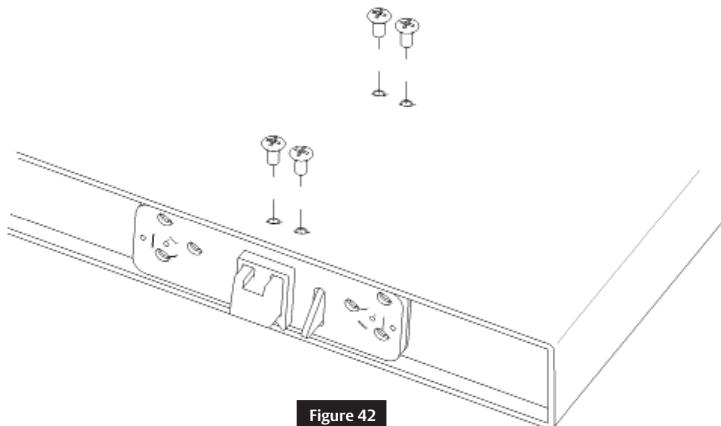

Figure 42
- Install four (4) 10-24 oval head screws on the face of the door. (Figure 42)